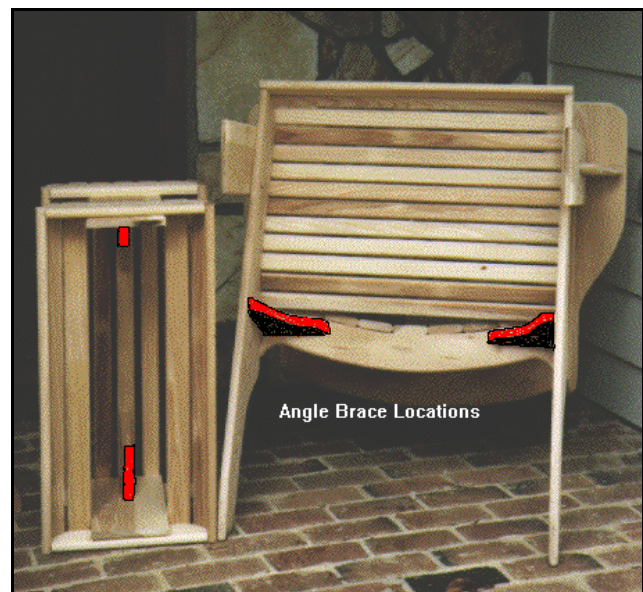

Figure 5. Bottom View (Photo by T Gauldin)
D. Screw each of the two wide slats to the lower frame on either side of the riser. This will help to keep the two risers parallel and plumb for the remainder of the assembly. (Figure 5)